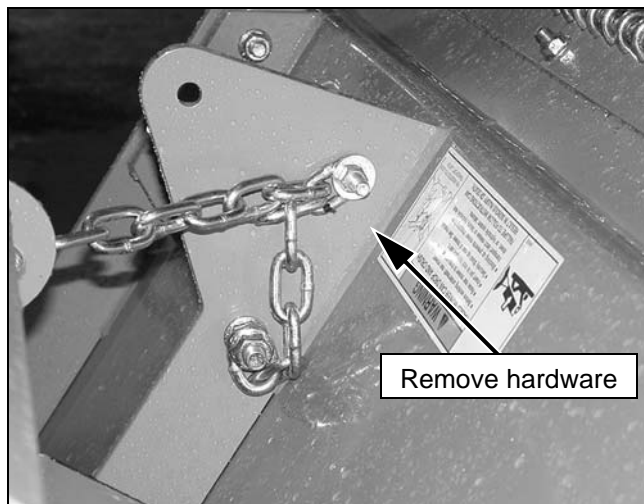

Figure 25. Remove Shipping Hardware
4. Remove 3/8 bolts, washers, and nuts from both rear lift chains. See Figure 25. This hardware is for factory shipping purposes only and can be discarded.